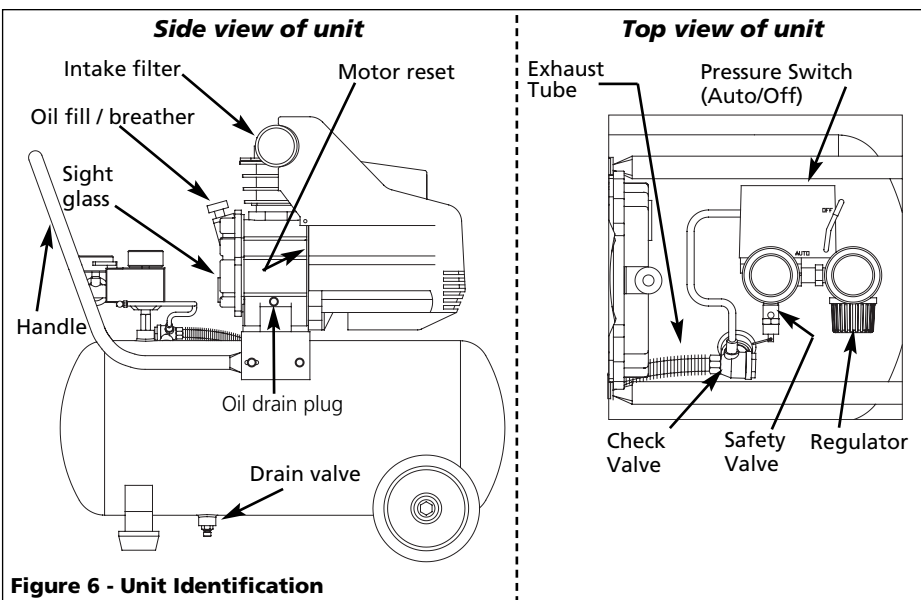

Figure 6 - Unit Identification
2. Wearing safety glasses, pull the ring on the safety valve (see Figures 6 and
1. Turn compressor off and release pressure from system. To release pressure from system, pull ring on ASME safety valve (see Figures 6 and 8). Deflect escaping air by shielding valve with one hand as you pull ring with other hand. Pull ring until tank is empty.
2. Drain moisture from tank by opening drain valve (see Figure 6) underneath tank. Tilt tank to remove all moisture.
3. Remove oil drain plug (see Figure 6). Allow oil to collect in pan. Tilt unit to completely drain.
⚠CAUTION *If the thermal overload protector is actuated, the motor must be allowed to cool down for 30 minutes before resetting. The motor reset is located on the side of the compressor pump (see Figure 6).*